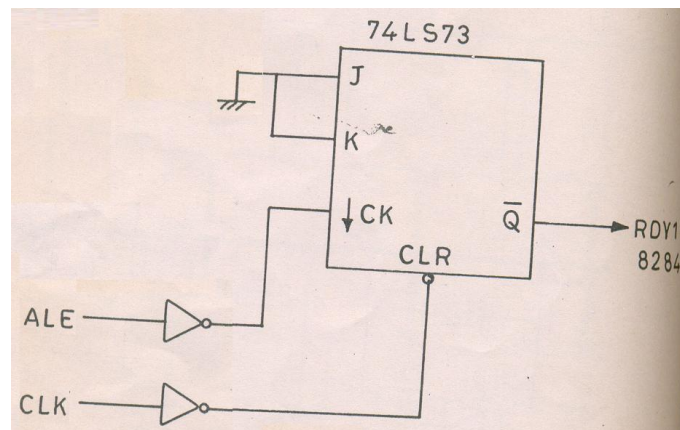

FIG.1
(B) Certain signals are incorrectly connected in the circuit shown in **fig.1**, for generating a single wait state. Point out necessary corrections with reason.
(C) (i) Answer the following with respect to **fig.1**